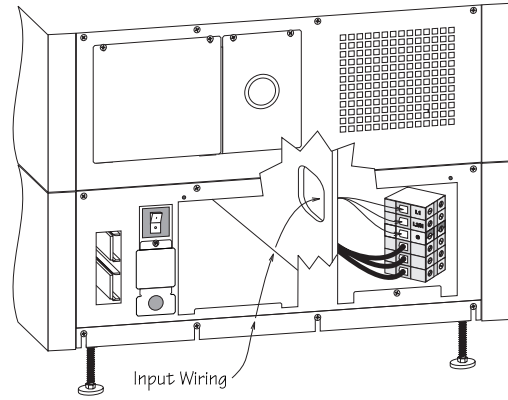

Fig 4-4 Input Wiring Pathway
3. Feed wire into the entry compartment through the wiring pathway hole between the input wiring entry compartment and the input wiring compartment. See figure 4-4 for the input wiring pathway.